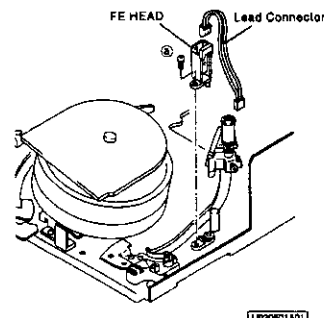
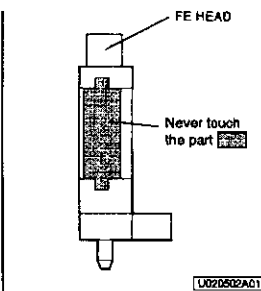

Fig. 2-5-1
Fig. 2-5-2
1. Disconnect the lead connector of the FE HEAD shown in Fig. 2-5-1.
1. Install the FE HEAD shown in Fig. 2-5-1. Note: Never touch the part shown in Fig. 2-5-2. If it is stained, clean it with alcohol.
2. Connect the lead connector of the FE HEAD shown in Fig. 2-5-1.